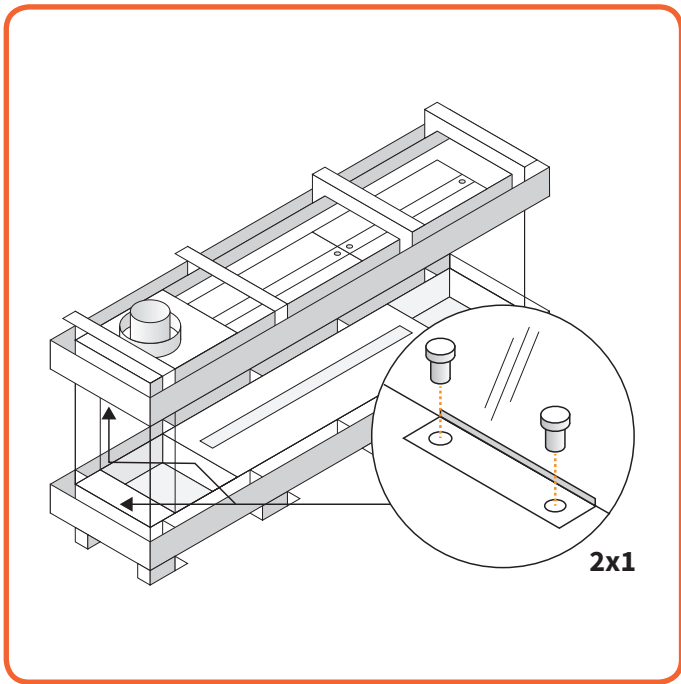

Figure 10.20 -
- Repeat these steps as shown in **figures 10.20 to 10.23** for the panes on the ends of the stove.